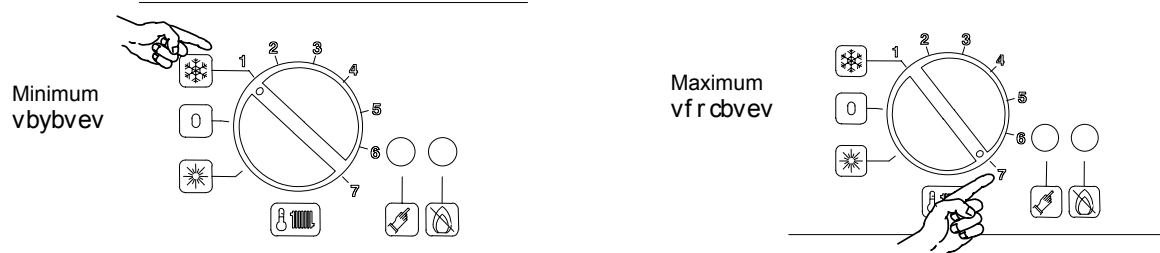

Fig. 2.6
The output temperature of c.h. water is adjustable from a minimum of about 38°C to a maximum of about 80°C (Fig. 2.6), by turning the knob (7).